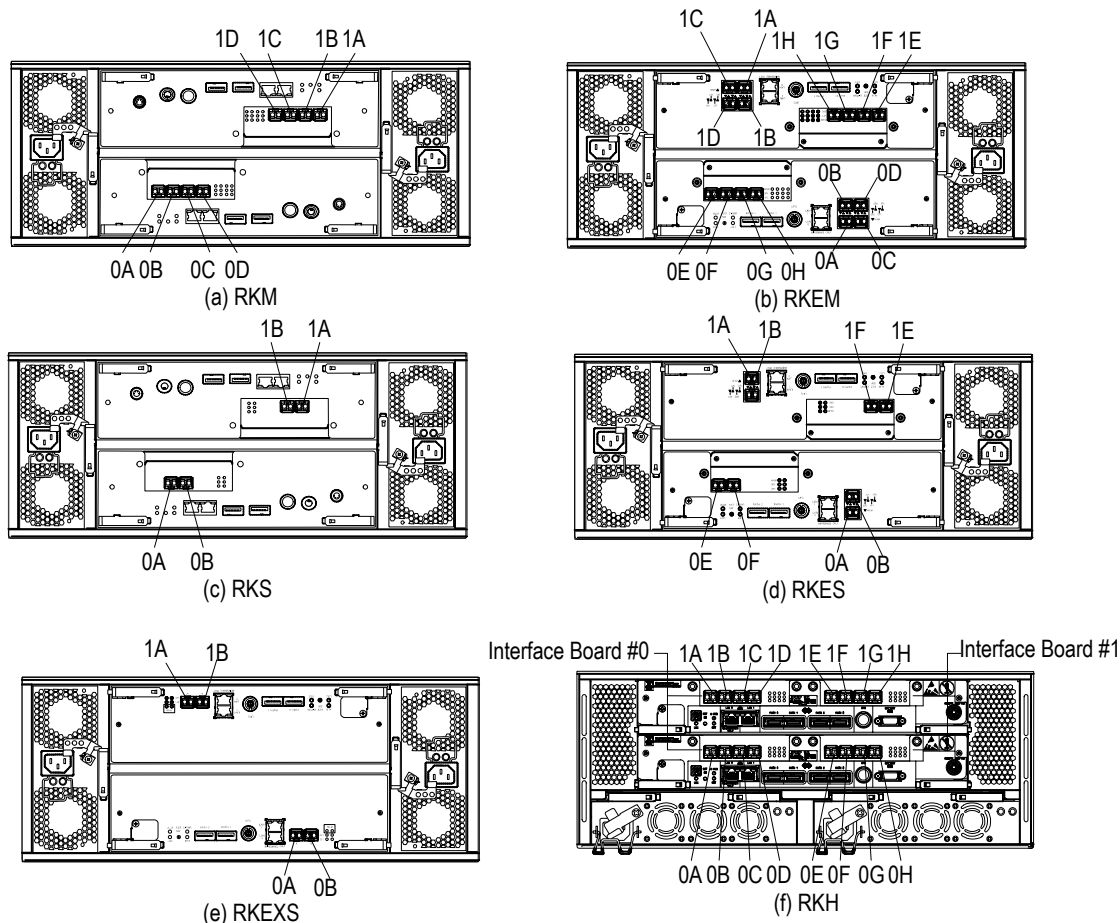

Figure 2.4.33 Connection Port for Fibre Channel Interface Cables
- (a) Connect the Fibre Channel Interface cables after making sure of the ports to be connected on the rear face of the subsystem. (Refer to Figure 2.4.33.)
- The location of Fibre Channel connectors is different depending on Control Unit. Check the location in Figure 2.4.33 before connecting a cable.